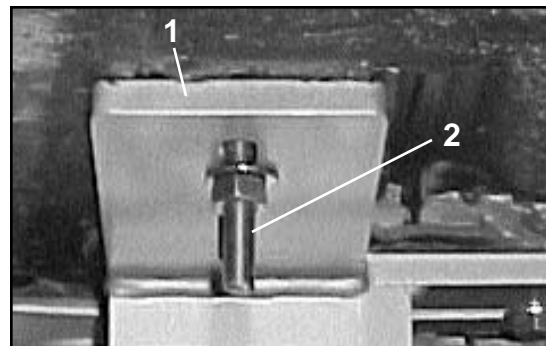

Figure 3
2. Position right front adapter plate against subrail on underside of rocker panel. Oval T-bolt must extend downward through slot in rail. (See Figure 3.) Secure adapter plate to subrail using 12mm nut and 1/2 ASTM washer.